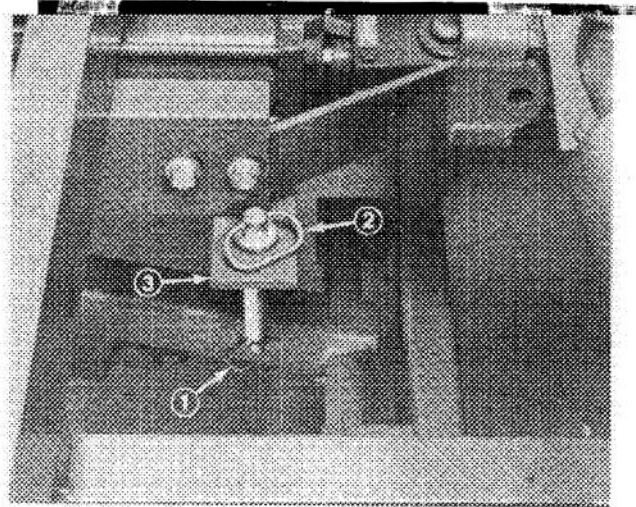
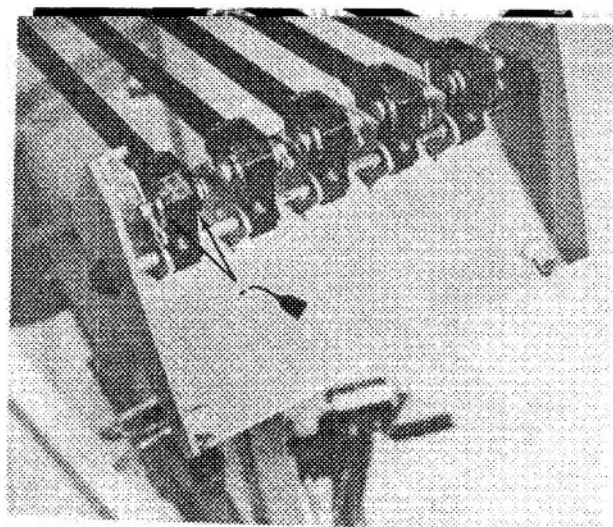

Figure 22
Figure 20
4. Remove hairpin cotter securing lockup pin to center cylinder rest (Fig. 22).
6. When mowing is to be resumed, remove transport straps from lift arms. Store on center frame channel and secure with (4) hairpin cotters (Fig. 20). Remove lockup pin secured to lockup bracket and secure to cylinder rest with hairpin cotter (Fig. 22).